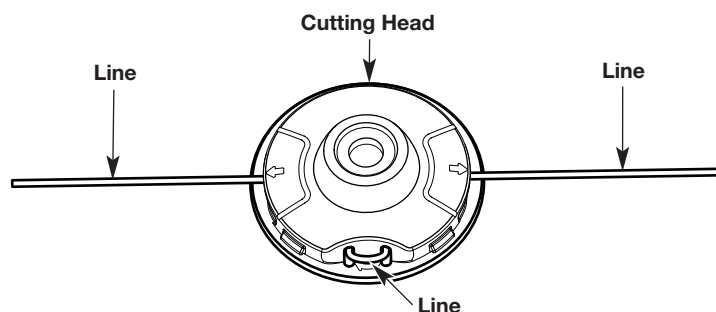

Fig. 17
4. Pull the ends of the line until the line is tight against the cutting head. Make sure the ends of the line are of equal length (Fig. 17). If one end is longer than the other, push the longer end back through the cutting head partway and pull the shorter end out. If necessary, repeat this process until both ends are of equal length.
5. Press the exposed trimming line between the circular holes until it lies flat against the cutting head (Fig. 17).